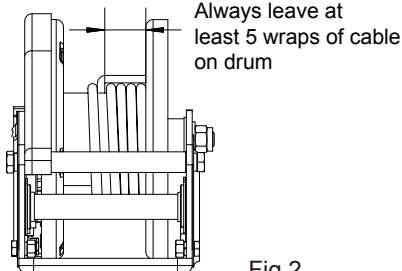

Fig.2
- ALWAYS LEAVE AT LEAST 5 WRAPS OF THE CABLE ON THE DRUM (Fig. 2)**